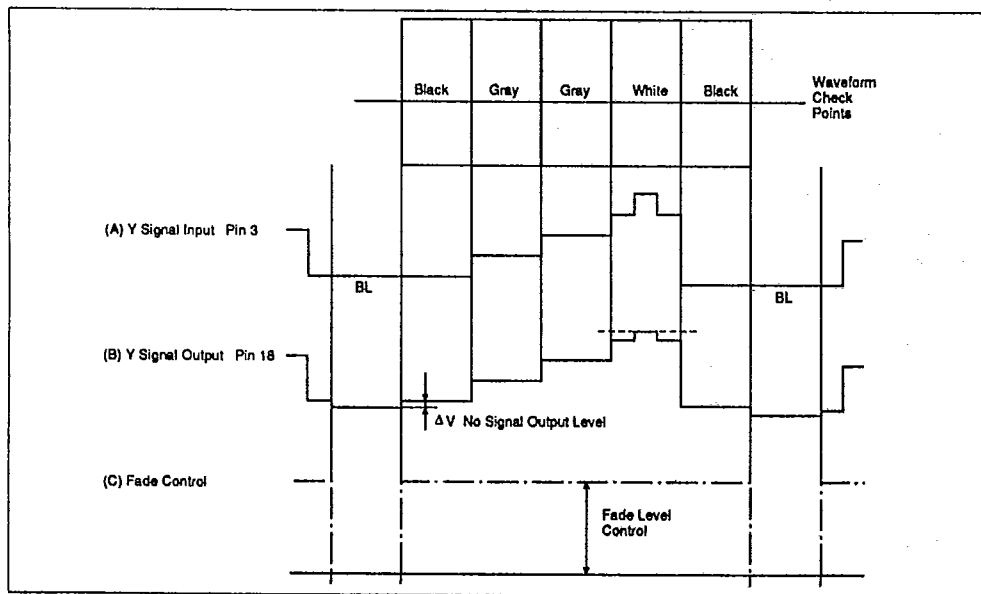
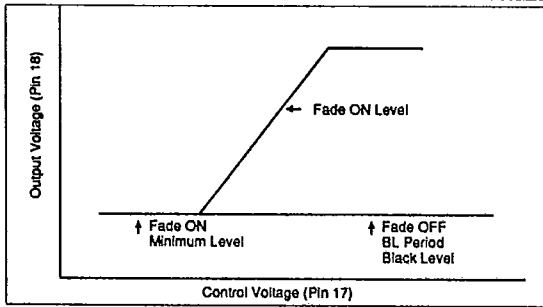

Figure 6. Luminance Signal Processing Waveform
Figure 7. Fade Level Control
Figure 6 illustrates the luminance signal processing waveform.
In (B) in figure 6, ΔV at the no signal output level is 17mV typ for BL ON/OFF DC difference voltage. Y signal input is 1.4Vpp for a 1 Vpp typ output. ΔV is 1.2% typ in this case.
(C) in figure 6 illustrates the Y signal waveform following fade ON. Fade level control can be used to set screen brightness at fade ON to a desired level as shown in figure 7.